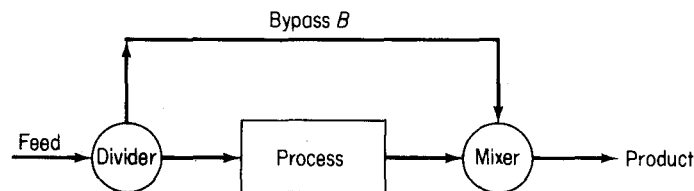

Figure 12.4 A process with a bypass stream.
- a. A **bypass** stream—a stream that skips one or more stages of the process and **goes directly** to another downstream stage (Figure 12.4).